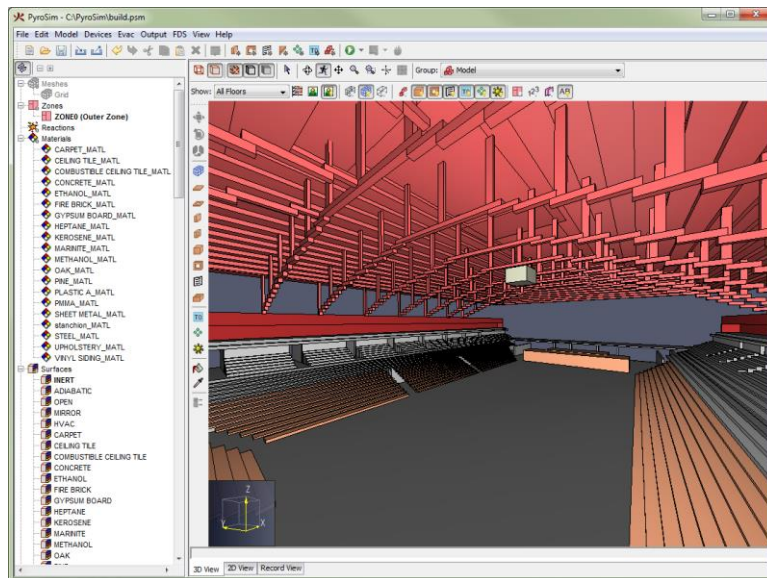

Figure 2.4. Interior view of model looking at roof and bleachers
- **Roam Tool (🚶):** This tool allows the user to move into the model rather than viewing it only from the outside as shown in Figure 2.4. This tool can take some experimentation, but once mastered, it can provide unique views of the model.